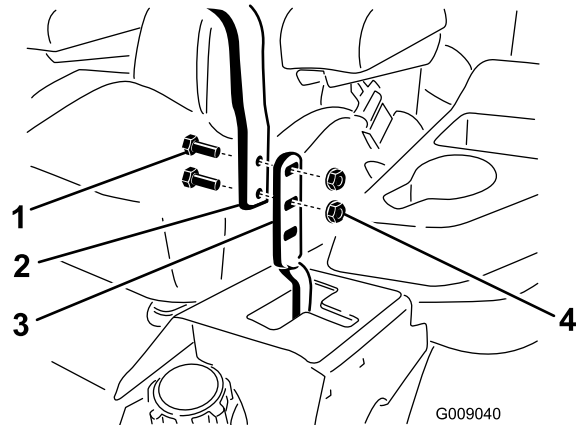

Figure 86
3. Loosen the bolts and flange nuts installed in the levers (Figure 86).